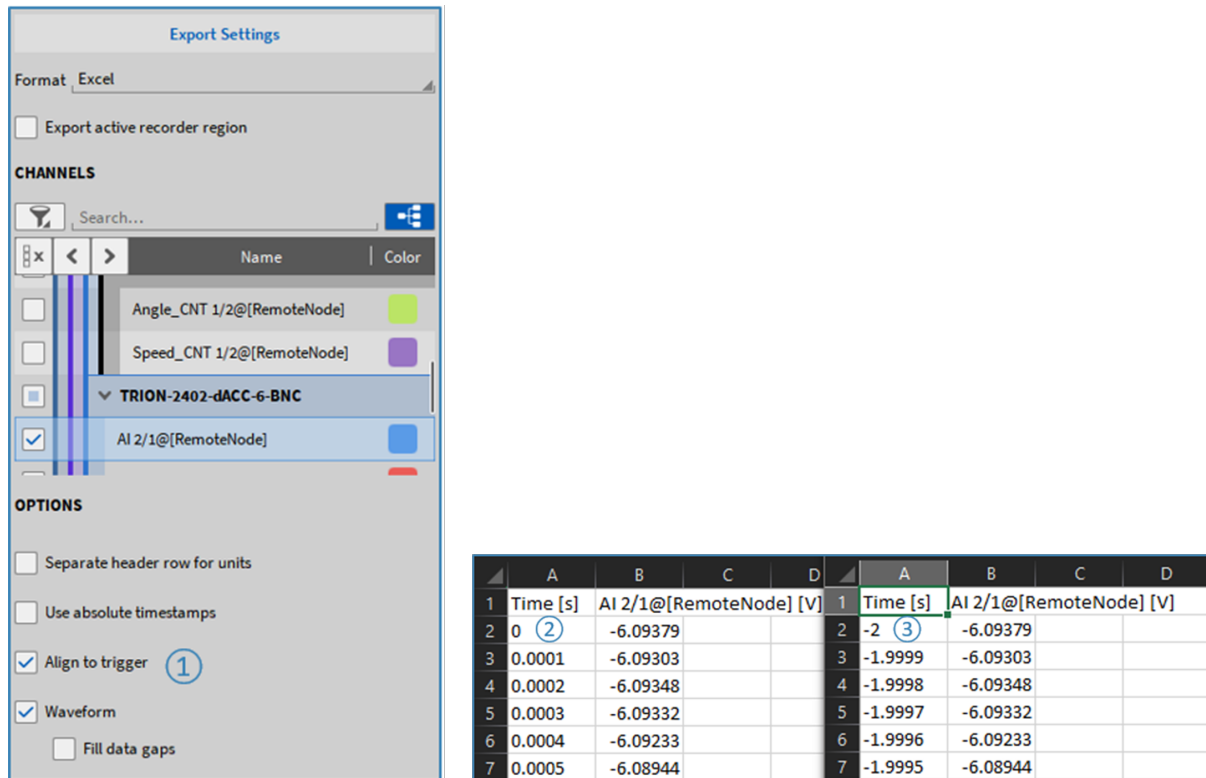

Fig. 11.4: Align timestamps in exported file to zero
Timestamps in an exported data file with a triggered event can be aligned to the trigger (see ① in Fig. 11.4). If align to trigger is not selected, then the 0s timestamp will be at recording start, not at the trigger (see ② in Fig. 11.4). If align to trigger is selected, the timestamp at the trigger will then be set to zero. Thus, the time leading up to the trigger event (e.g. the pre-time) will be negative (see ③ in Fig. 11.4).